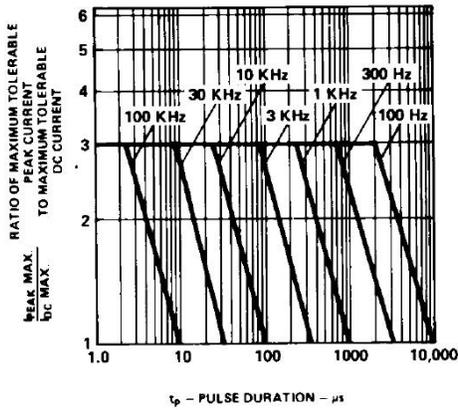

Figure 2. Maximum tolerable peak current vs. pulse duration. ( $I_{DC}$  MAX as per MAX ratings).
- See Figure 2 to establish pulsed operating conditions.